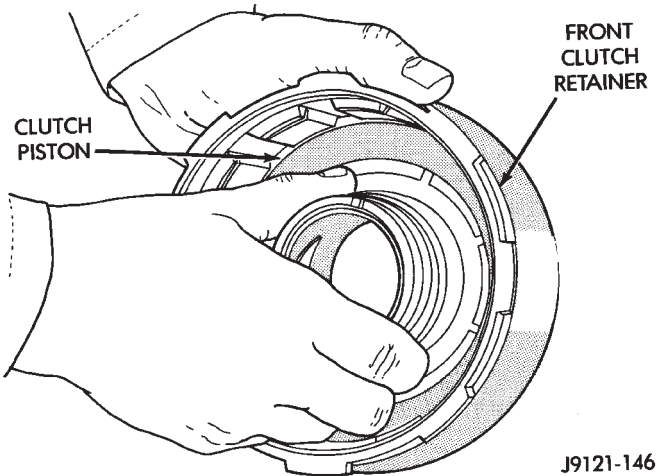

Fig. 161 Front Clutch Piston Installation
- (1) Soak clutch discs in transmission fluid while assembling other clutch parts.
- (2) Install new seals on piston and in hub of retainer. Be sure lip of each seal faces interior of clutch retainer.
- (3) Lubricate lips of piston and retainer seals with liberal quantity of Mopar® Door Ease. Then lubricate retainer hub, bore and piston with light coat of transmission fluid.
- (4) Install clutch piston in retainer (Fig. 161). Use twisting motion to seat piston in bottom of retainer.